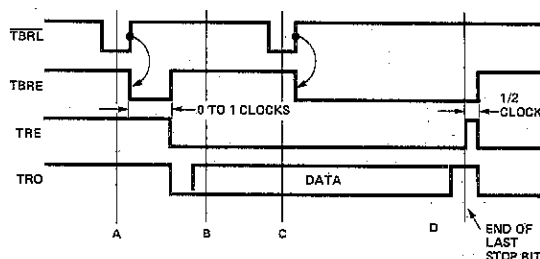

FIGURE 7. Transmitter Timing (Not to Scale)
Transmitter timing is shown in Figure 7. ① Data is loaded into the transmitter buffer register from the inputs TBR1 through TBR8 by a logic low on the TBRLoad input. Valid data must be present at least  $t_{DS}$  prior to and  $t_{DH}$  following the rising edge of TBR1. If words less than 8 bits are used, only the least significant bits are used. The character is right justified into the least significant bit, TBR1. ② The rising edge of TBR1 clears TBREmpty. 0 to 1 clock cycles later, data is transferred to the transmitter register, TREmpty is cleared and transmission starts. TBREmpty is reset to a logic high. Output data is clocked by TRClock, which is 16 times the data rate. ③ A second pulse on TBRLoad loads data into the transmitter buffer register. Data transfer to the transmitter register is delayed until transmission of the current character is complete. ④ Data is automatically transferred to the transmitter register and transmission of that character begins.